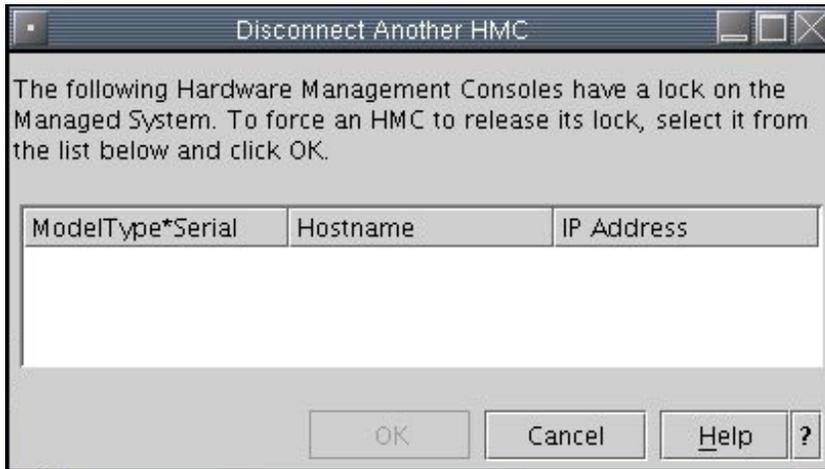

Figure 3-30 Disconnect another HMC
- ▶ Disconnecting another HMC forces a second HMC to release its lock on the server. See Figure 3-30.